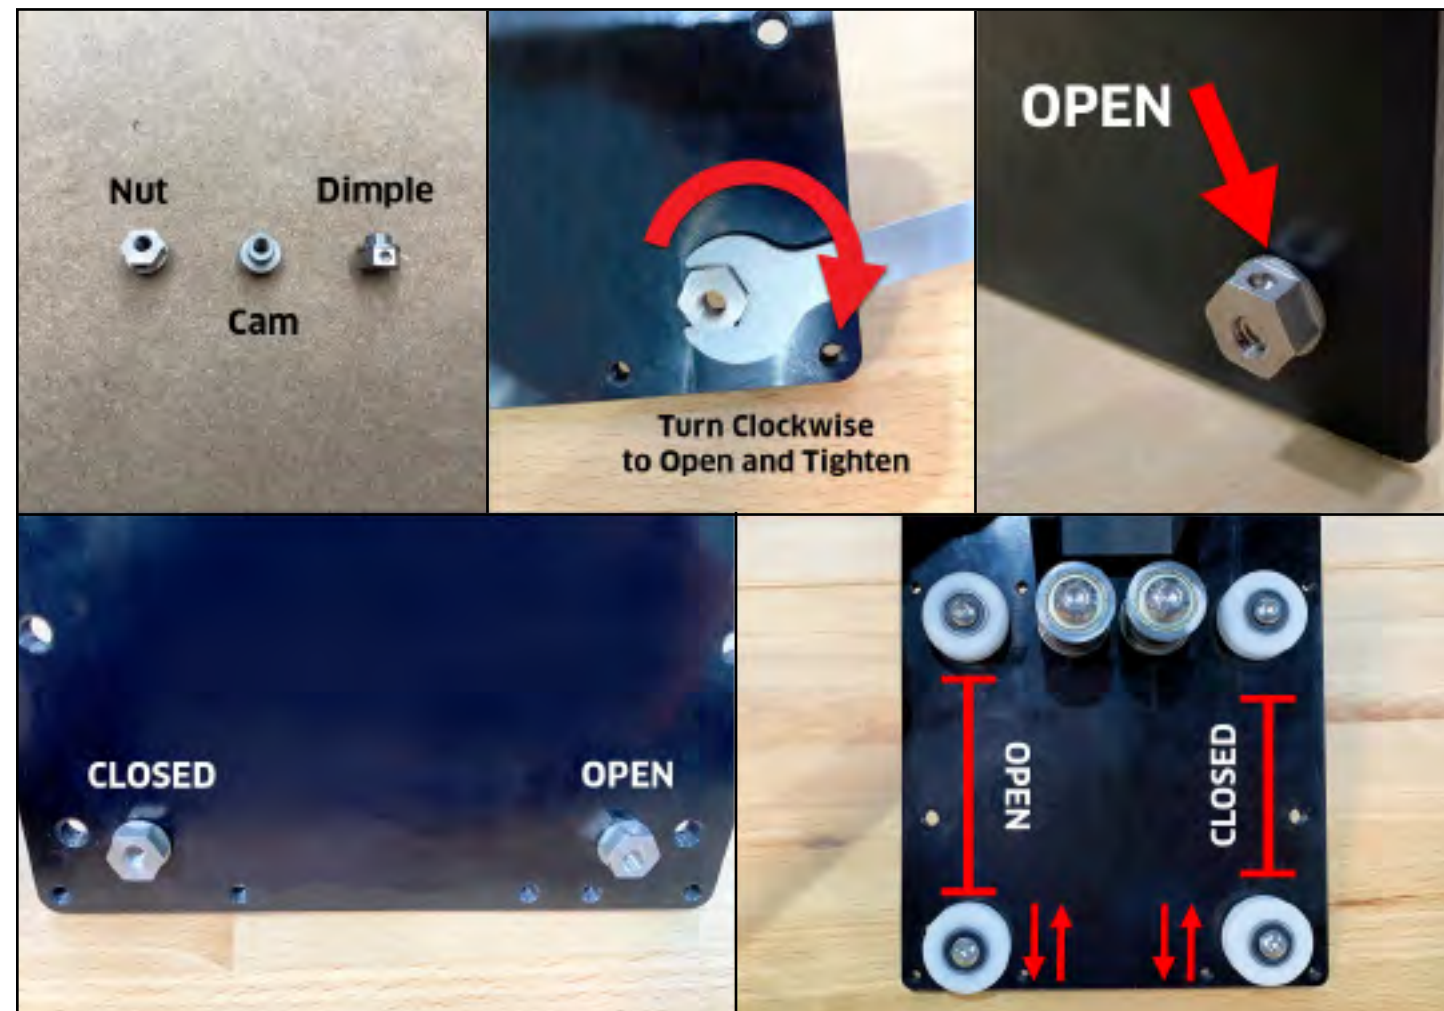

Figure 3-2
A dimple on one the side of the nut indicates the furthest point from center of the offset threads. When the dimple is facing UP, the distance between the top and bottom V-wheel is at its greatest and the V-wheels are OPEN. When the dimple is facing DOWN, they are CLOSED. See **Figs. 3-2** and **3-3**.
Not much tension is needed for the carriages to be secure. The V-wheels should only be snug against the V-rail. Reach under and spin the V-wheel with your finger. If it rotates freely, turn the eccentric nut clockwise until you feel some friction against the rail and the carriage is free from slop. See **Figs. 3-2** and **3-3**.
1. Use a 10mm wrench to fully open the X-Axis gantry's four (4) eccentric nuts.
- a. Turn CLOCKWISE until the dimple faces UP. See **Figs. 3-2** and **3-3**.